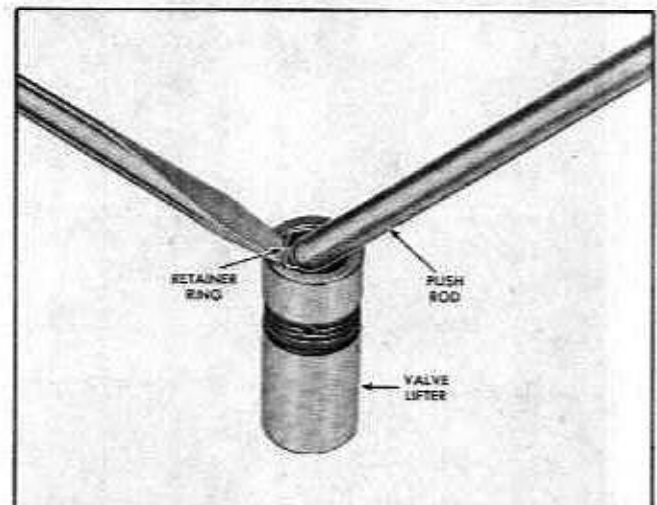

Fig. 6-49 Removing Push Rod Seat Retainer Ring
1. Remove push rod seat retainer ring by holding seat down with push rod while dislodging spring from lifter body with a pointed tool (Fig. 6-49). **NOTE:** It may be necessary to unseat lifter ball, using plunger unloader J-5097, before plunger can be pushed down.